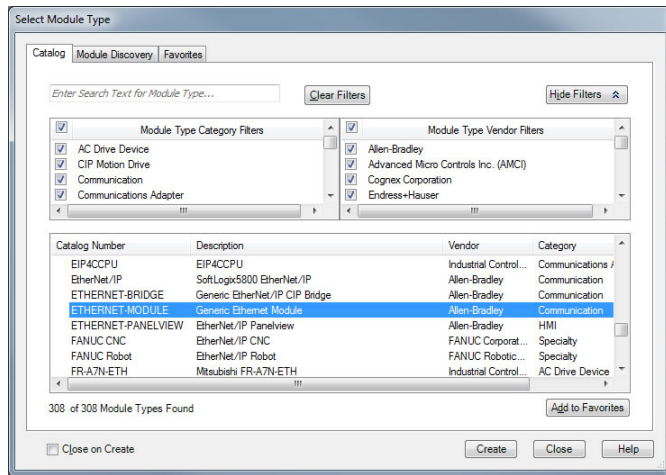

Figure 40: Adding a New Generic Ethernet Module
- 18) Choose "Generic Ethernet Module" in the Select Module dialog box and click "Create". Refer to Figure 40.